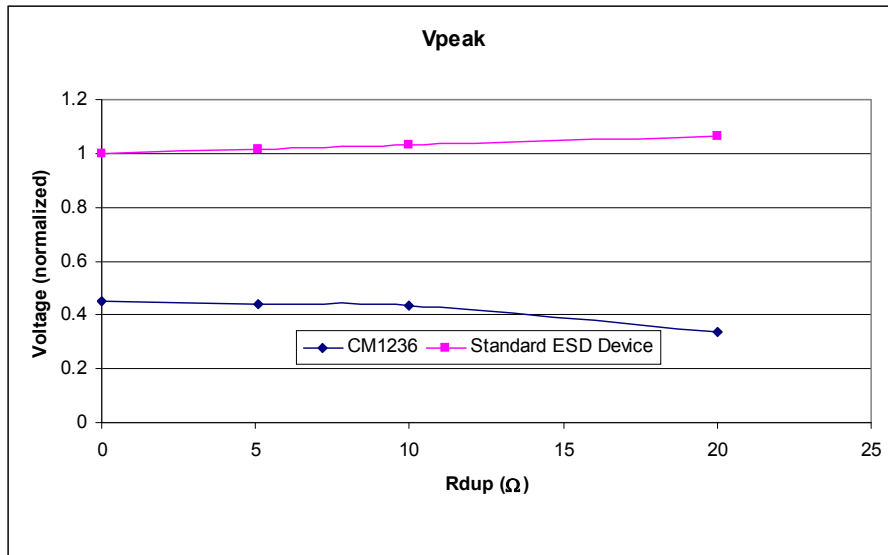
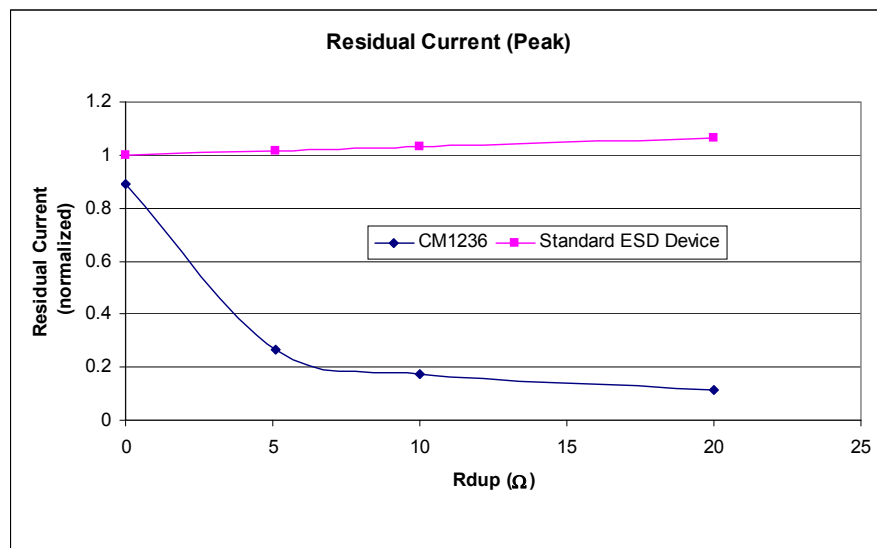
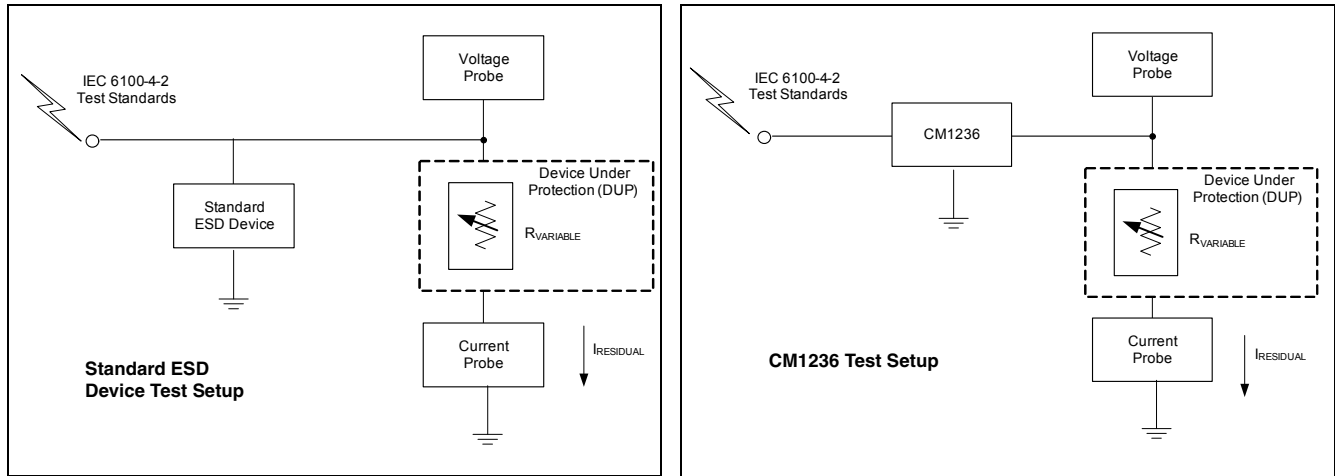

Figure 4. V_{CLAMP} vs. RDUP* (ASIC) – 8kV Contract Strike
Figure 5. $I_{RESIDUAL}$ vs RDUP* (ASIC) – 8kV Contract Strike
Figure 6. Test Setups: Standard Device (Left) and CM1236 (Right)
Figure 4 shows that the CM1236 (*PicoGuard XS* ESD protector) lowers the peak voltage and clamping voltage by 45% across a wide range of loading conditions in comparison to a standard ESD protection device. Figure 5 also indicates that the DUP/ASIC protected by the CM1236 dissipates less energy than a standard ESD protection device. This data was derived using the test setups shown in Figure 6.
* RDUP is the emulated Dynamic Resistance (load) of the Device Under Protection (DUP). See Figure 6.